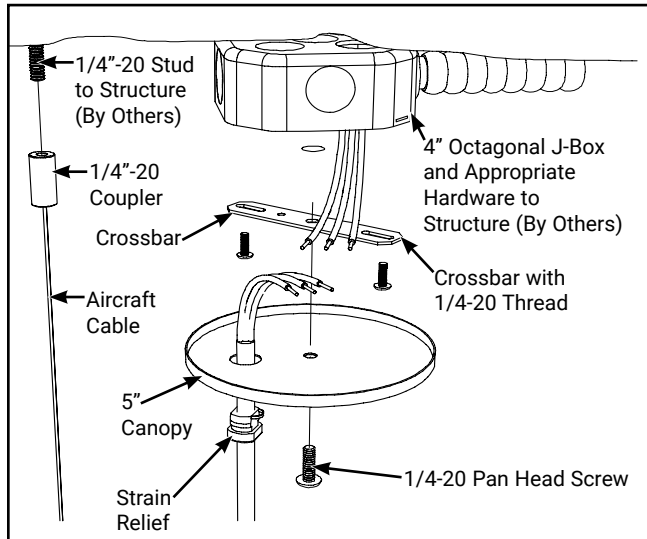

Figure 1 Power
1. Layout mounting locations. (Figure 1.)